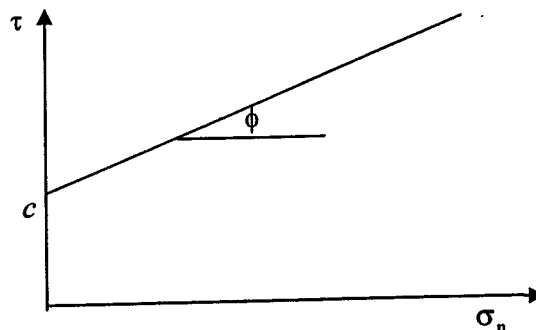

Figure 4
- vi Mohr's Coulomb formula is expressed as in Figure 4 that gives a relationship of .....